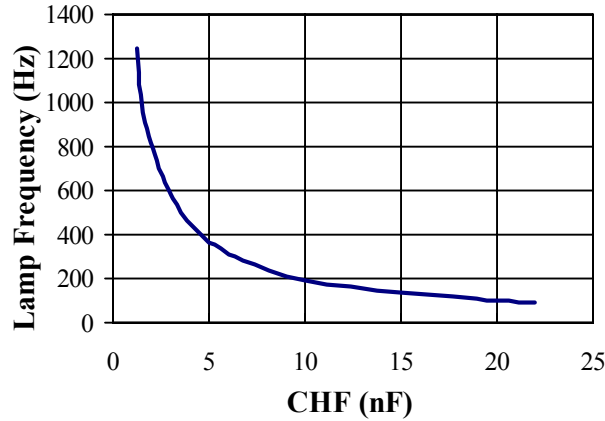

Figure 1: Typical Lamp Frequency vs. CLF Capacitor
Selecting the appropriate value of CHF capacitor will specify the inductor switching frequency (HF) and the lamp frequency (LF) of the D365 EL driver. A divider circuit in the internal oscillator circuitry of the D365A divides the inductor switching frequency by 72 to get the lamp frequency ( $LF = HF/72$ ). Lamp frequencies of 200 – 500 Hz are typically used for longer EL lamp life. Figure 1 graphically represents the effect of CHF capacitor value on the lamp frequency oscillator at  $V_+ = 3.3V$ . In this example at  $V_+ = 3.3V$ ,  $LF = 2000 \text{ nF-Hz}/CHF$ .